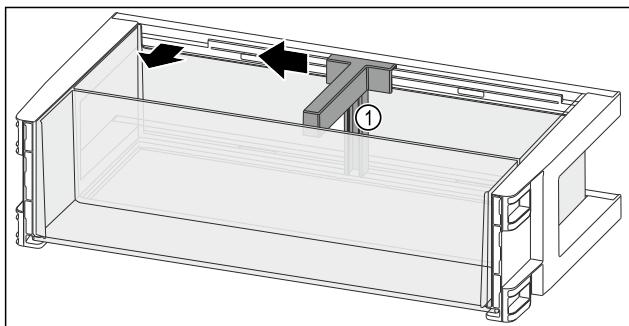

Fig. 122
- ▶ Slide the bottle holder Fig. 122 (1) to the side as far as the recess.
- ▶ Remove the bottle holder Fig. 122 (1).